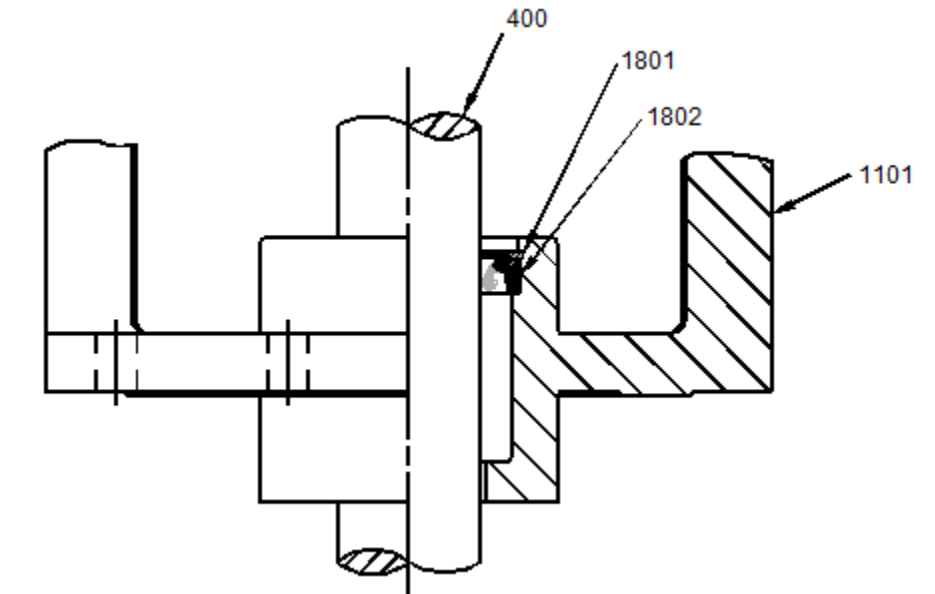

Figure 8: Lip Seal Installation
12. QED-L: Install lip seal [1802] and snap ring [1801] into pedestal housing [1101]. See Figure 8, next page.